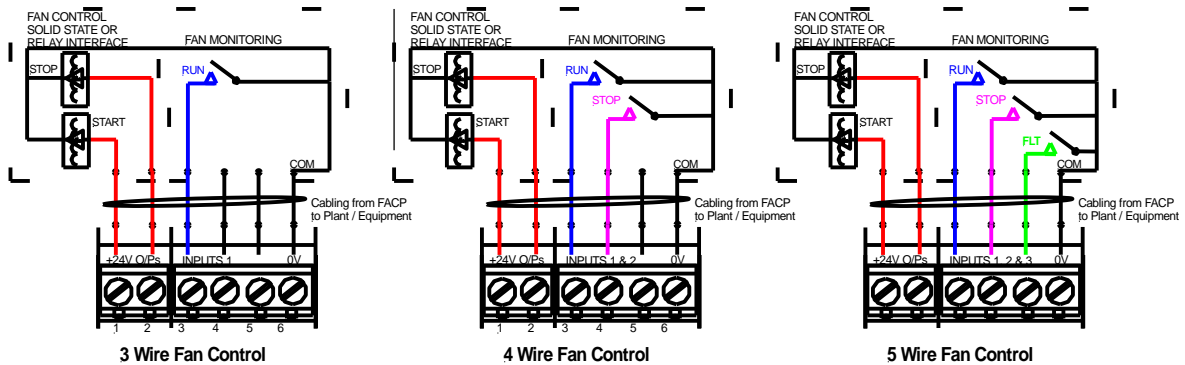

Figure 4: General Wiring For a 3, 4 and 5 Wire Setup
1. Mount the board onto the stand offs, see Figure 4 for locations, using the 4 M3 X 8mm screws